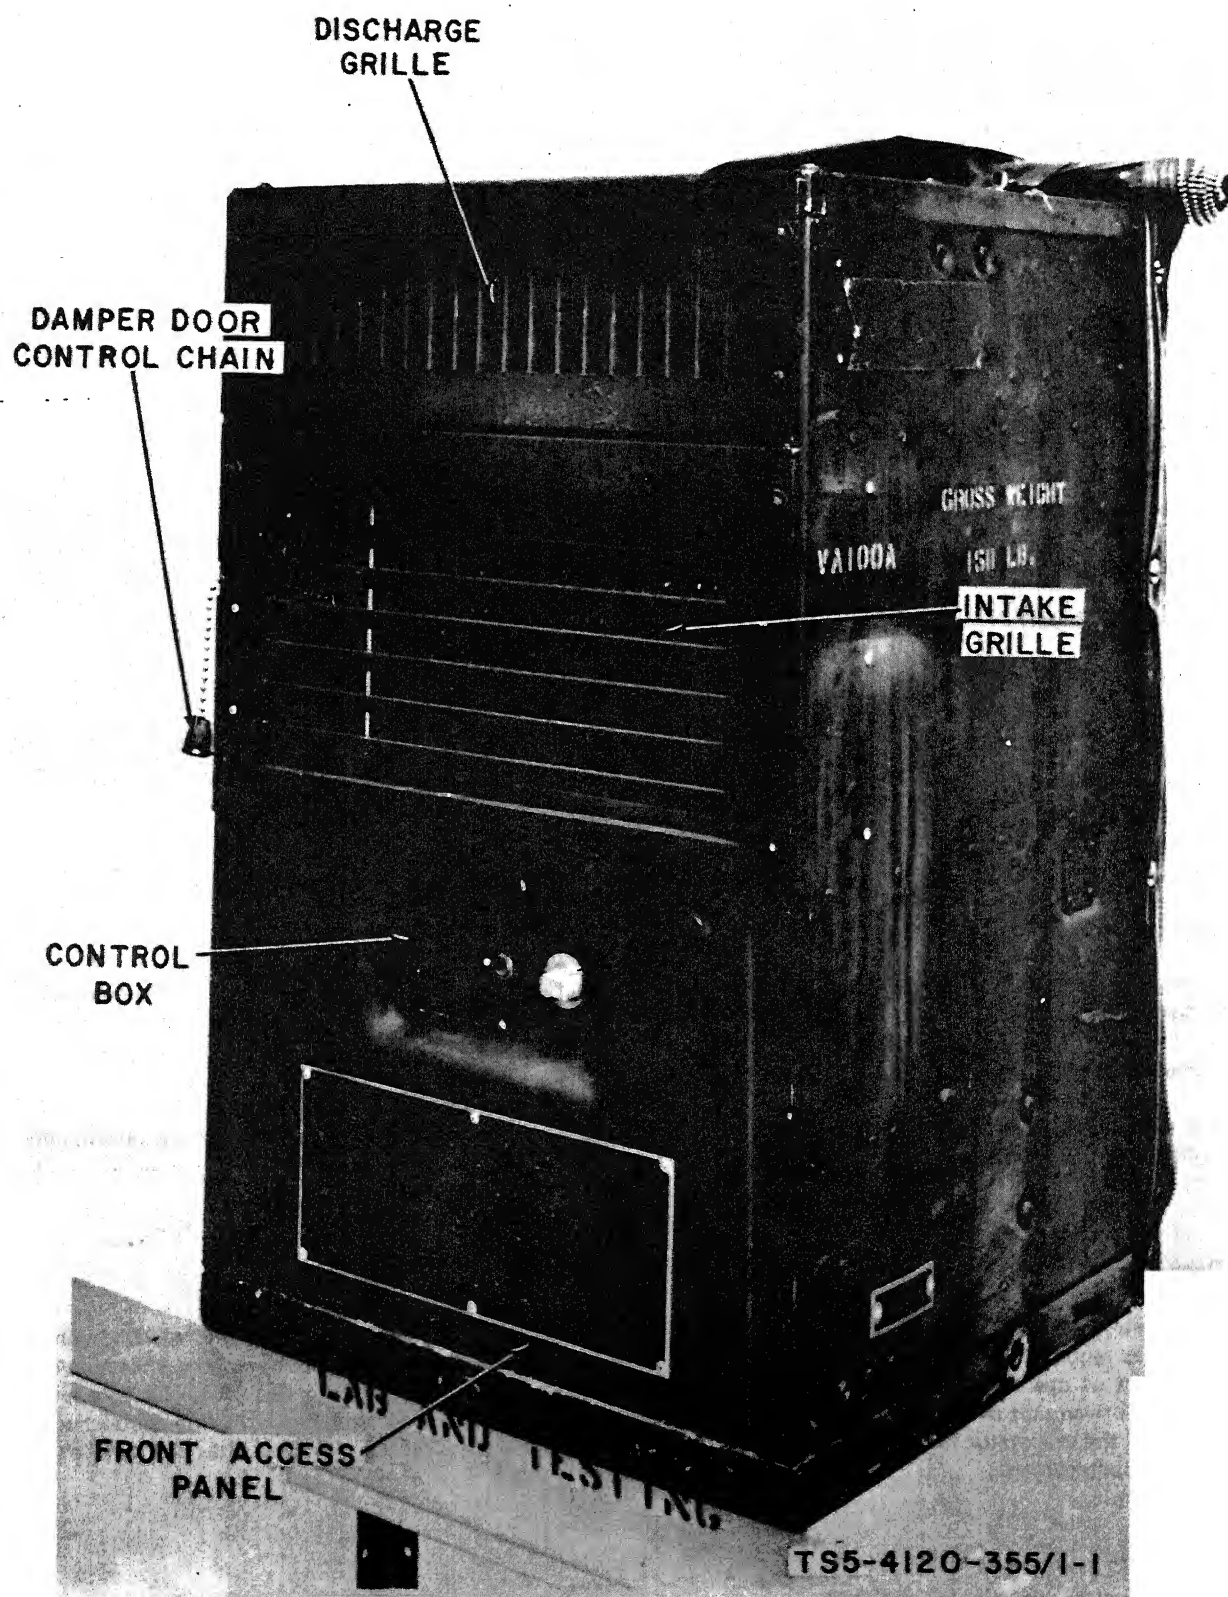

Figure 1-1. Air Conditioner, Left Front Three-Quarter View.
a. **General.** The air conditioner (fig. 1-1) is used primarily in van type enclosures for providing filtered, conditioned, or heated air as required to maintain service conditions necessary for the efficient operation of electronic equipment and for the comfort of operating personnel housed within the specified vans. It is a completely self-contained, air cooled, electric motor driven unit designed for continuous operation with varying loads. It is equipped with internal ducting to the low side of the evaporator fan so that ventilation air and air from the chemical and biological filter unit may be supplied by the evaporator fan.